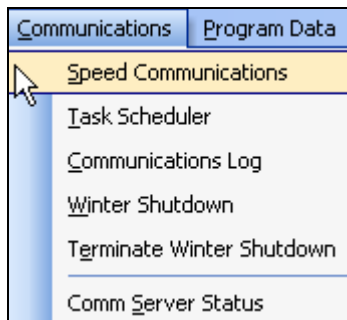

Figure 18.0.1
1. From the toolbar at the top of the screen select **Communications** then scroll down to **Speed Communications** and click on it (Figure 18.0.1).